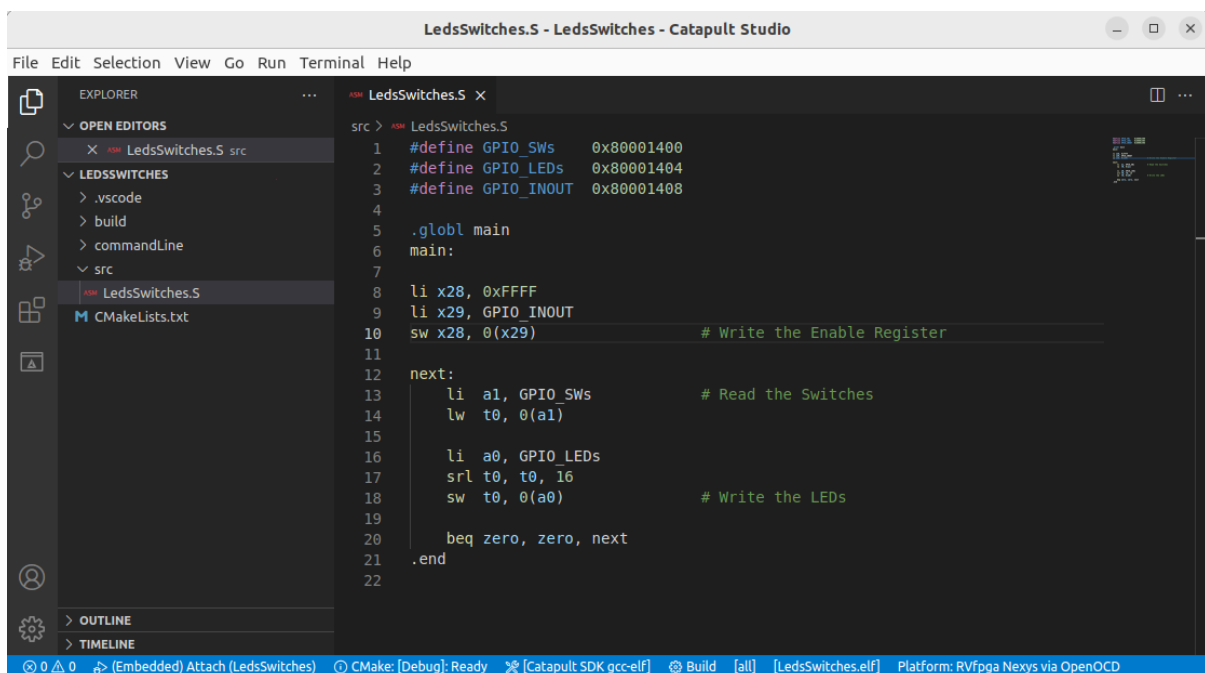

Figure 45. LedsSwitches.S in Catapult Studio
3. The program *LedsSwitches.S* has an infinite loop where the switches are read and then their state is shown on the LEDs (Figure 45).